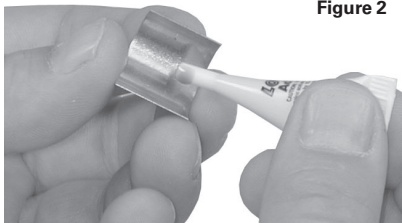

Figure 2
2. Note, the two wider shims are a matched set for use at the rear of the bolt. The narrower, front shims are installed at the front of the bolt, just behind the locking lugs. Begin by spreading a thin, even layer of adhesive over the entire inside surface of both rear shims. (See Figure 2).
3. Position the rear shims onto the bolt body. Align the back edges of the shims with the alignment mark forward of the bolt handle. Mate the edges of the shims at the top side of the bolt to form a tight seam. Make sure gap (A) at bottom side of bolt is aligned with cocking piece (B) as shown.